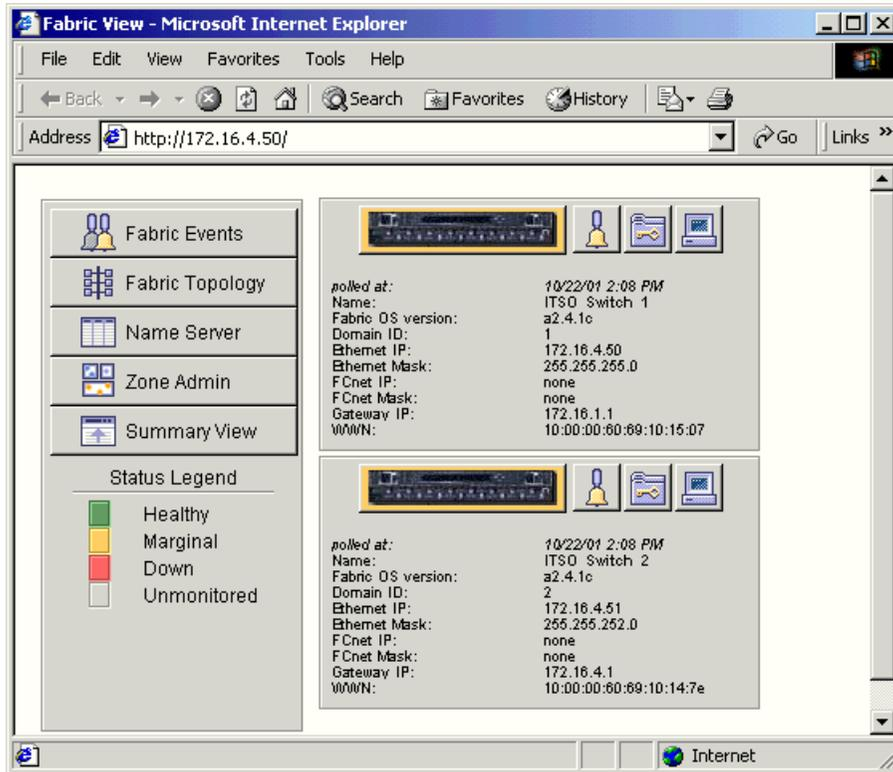

Figure 7-2 The second switch is now visible in the fabric
6. Using your Web browser, access the IP address of switch 1. You should now see both switches, as shown by Figure 7-2: